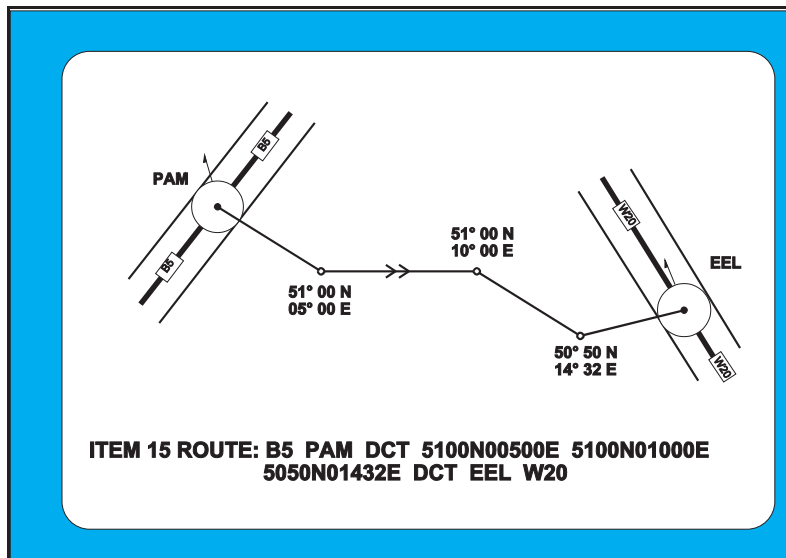
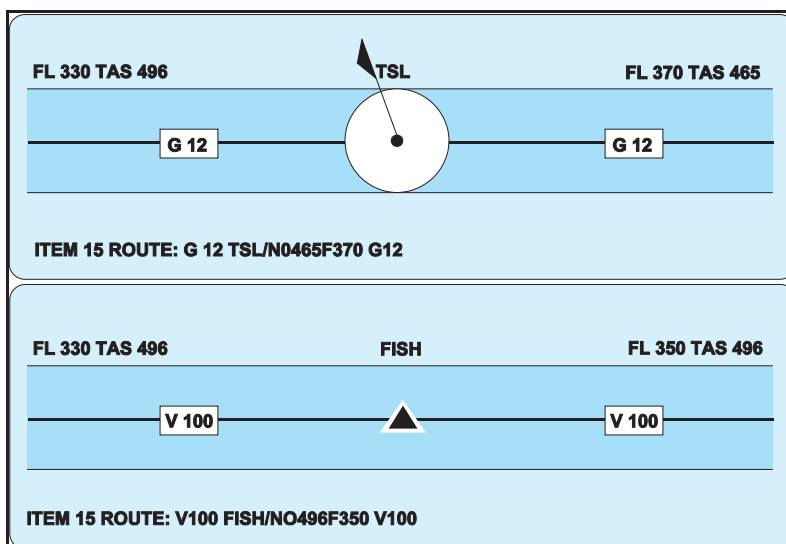

Figure 12.4 Use of DCT - leaving & re-joining airways
Figure 12.5 Change of speed and/or level
- DCT is not required between successive points defined by latitude and longitude or a bearing and distance from a navaid. (*Figure 12.4*)
- **Only points of change** are to be entered in item 15. Insert each point at which there is a change of:
- Speed or level. A **change of speed is 5% of TAS or 0.01 Mach or more**. If there is a change of level or speed both must be entered even though only one has changed. (See *Figure 12.5*).